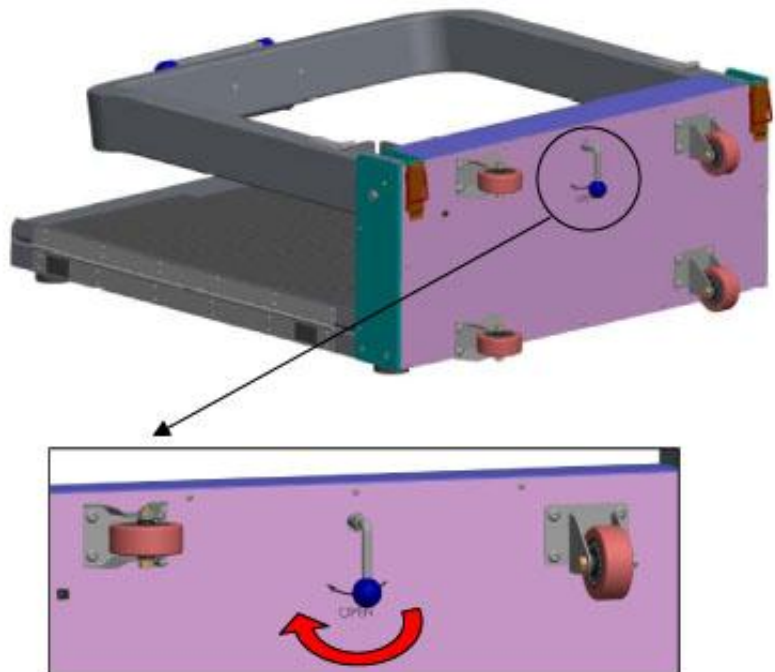

Fig. 2 Release Lever
1. Place the scale platform onto the floor. See Figure 2.